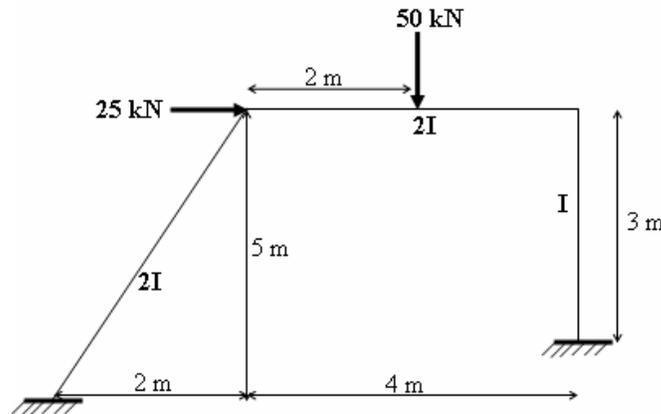

Fig.1
1. Analyze the portal frame shown in Fig.1, using moment distribution method. [16]